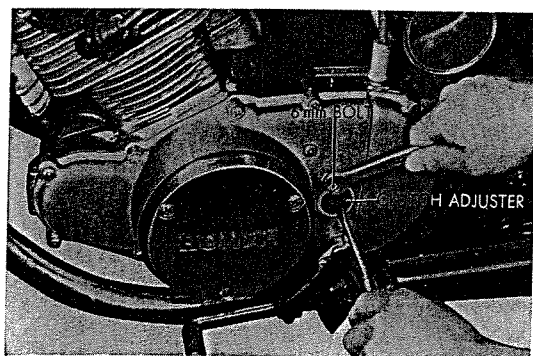

Fig. 3.42 Adjusting clutch
2. After complete vehicle assembly and inspection, adjustment of the clutch should be made with the clutch cable (Refer to Fig. 3.42)